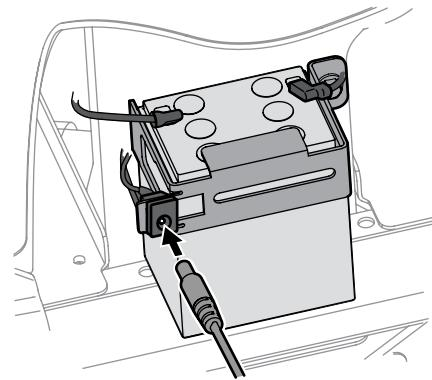

Figure 4-16
- a. A separately available charging unit is available for this tractor. Instructions for using this feature will accompany the battery charging accessory. The charging unit will plug in right next to the battery as shown in Figure 4-16. To order the battery charger, see the Parts/Warranty supplement sheet.